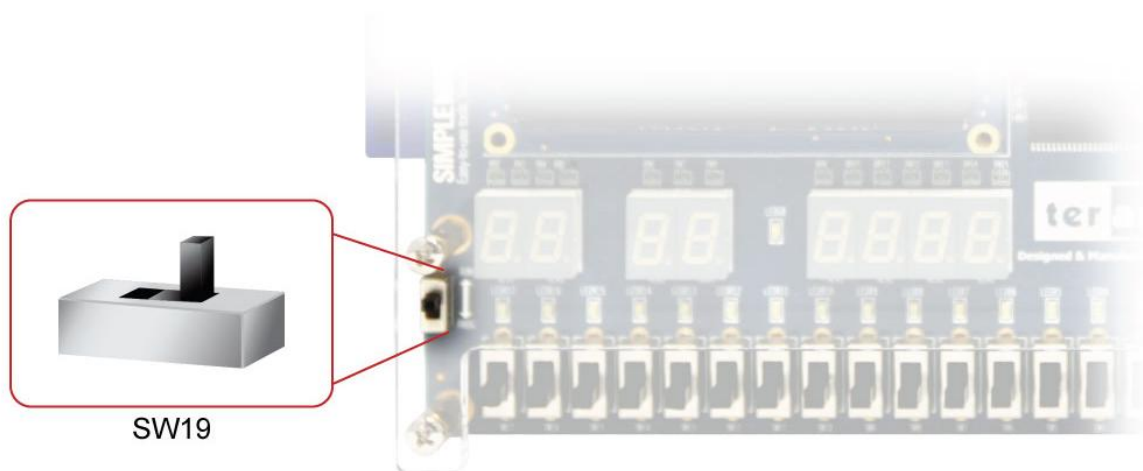

Figure 3-4 The RUN/PROG switch (SW19) is set to JTAG mode
- Configure the JTAG programming circuit by setting the RUN/PROG slide switch (SW19) to the RUN position (See Figure 3-4)